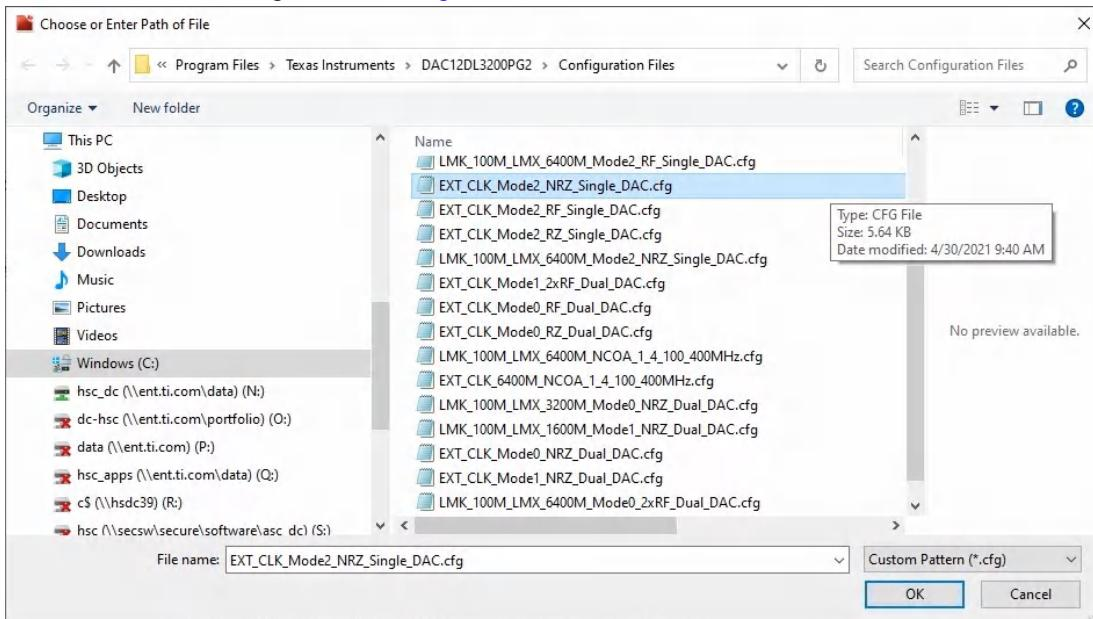

Figure 3-4. Selecting Configuration File
- Click on the *File* icon and navigate to “EXT_CLK_Mode2_NRZ_Single_DAC.cfg” and click on the *OK* button to load the LMK and DAC registers, see **Figure 3-4**.